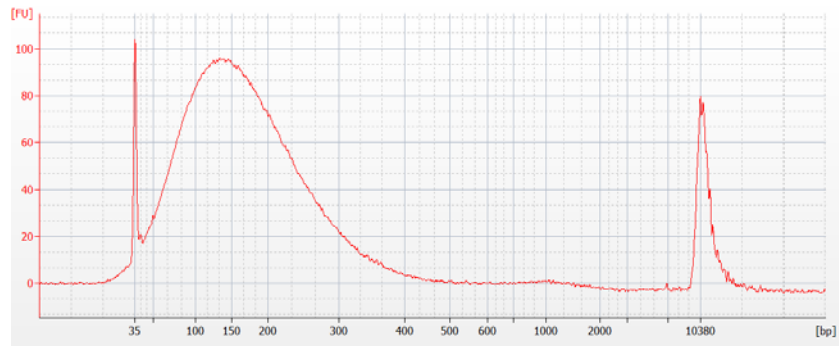

Figure 6 Analysis of sheared DNA using a High Sensitivity DNA Bioanalyzer assay.
- 3 Check that the electropherogram shows a DNA fragment size peak at approximately 150 bp. A sample electropherogram is shown in Figure 6.